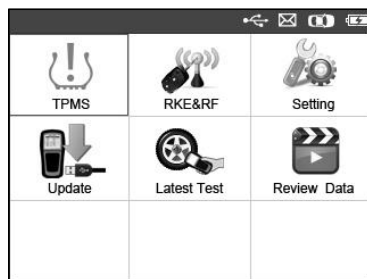

Figure 3.1
- 4) Power up the TPMS tool by pressing the **Power** button, and wait for the Main Menu to appear (Figure 3.1).